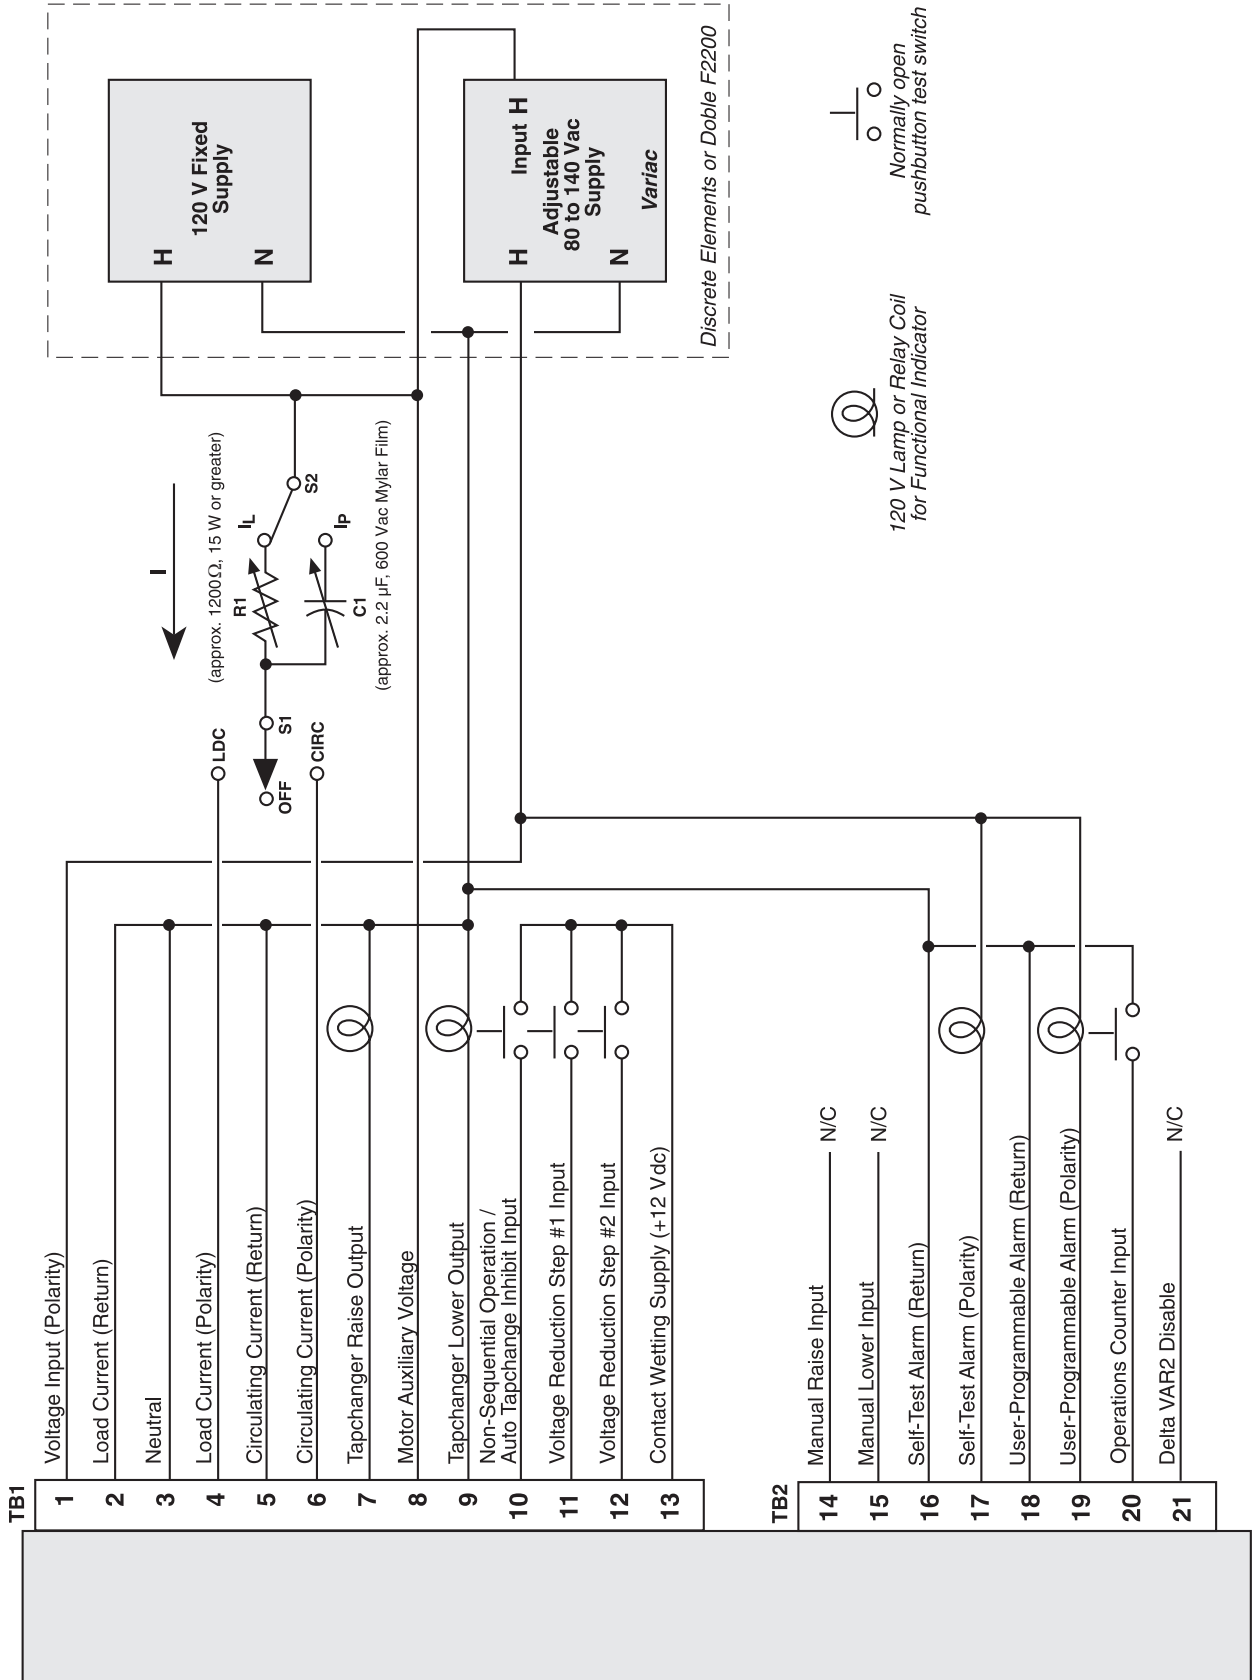

Figure 10 M-2067B Test Procedure External Connection
1. Make the electrical connections as shown in Figure 10.